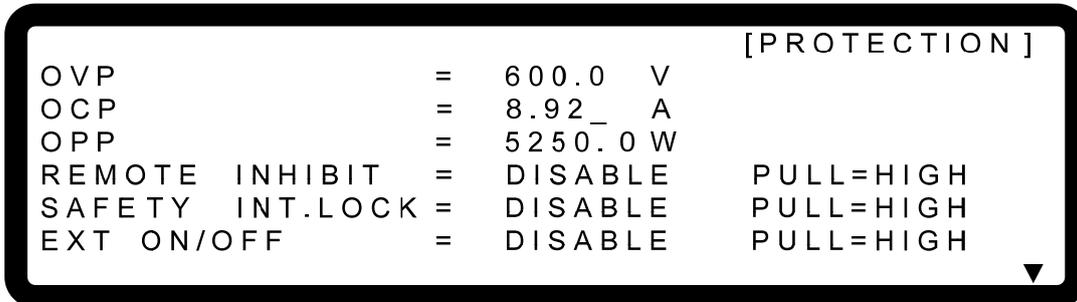

Figure 3-66
1. Use “”, “” keys to move the cursor to the column to be set as Figure 3-66 shows.